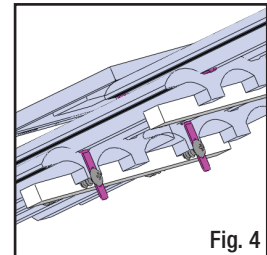

Fig. 4
4. Use 2x coach screws to secure bracket panel in place. (Do not use screws as a clamp) Fig. 4.